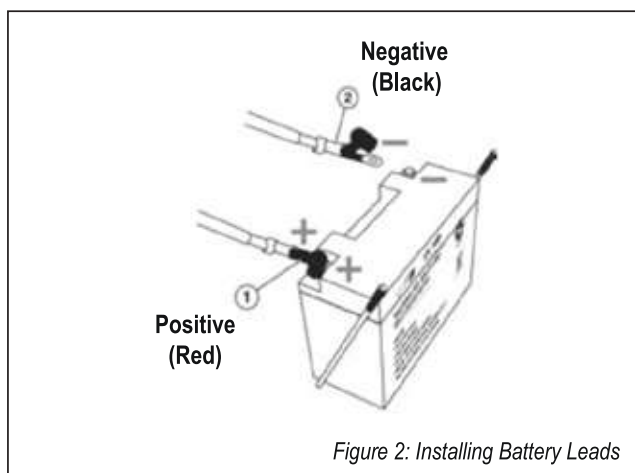

Figure 2: Installing Battery Leads
5. Pull back the black boot and securely attach the negative (-) battery cable (black boot) to the negative (-) battery post as shown in Figure 2.